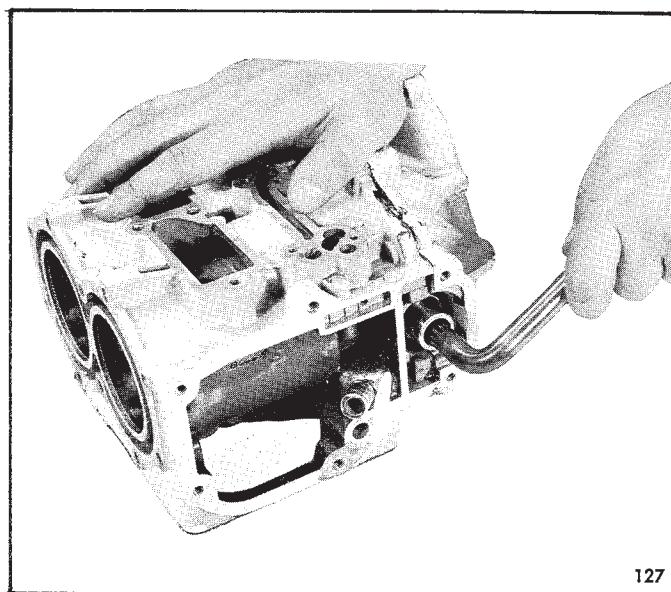

FIGURE 27 — TURNING ENGINE OVER
3. Install and torque all main bearing bolts holding crankcase cover to cylinder. **IMPORTANT:** At this time turn the engine over by using a vice block, as listed below and as shown in Figure 27, to insure that all parts are free and that there aren't any unusual noises or knocks. If any binding or unusual sounds occur the power head must be disassembled and the fault found before proceeding with assembly process.